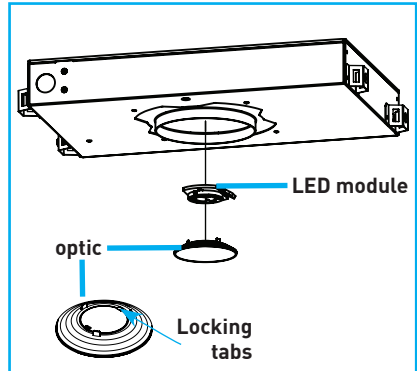

Fig.26
**Important:** Before installing trim in ceiling, ensure that LED module is properly secured in place and the optic is aligned and locked into LED module. Secure optic to LED module by aligning two locking tabs and twisting clockwise "Fig.26".